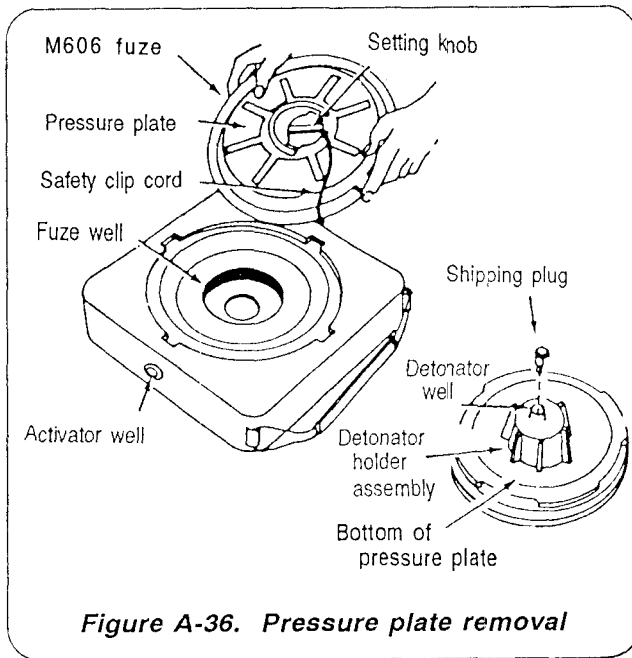

Figure A-36. Pressure plate removal
b. Remove the M606 fuze from the fuze well by turning it counterclockwise 1 1/4 turn (Figure A-36).
e. Ensure the setting knob is in the SAFE (S) position and the safety clip is in place.
f. Use the M22 wrench to remove the shipping plug from the detonator well (Figure A-36).